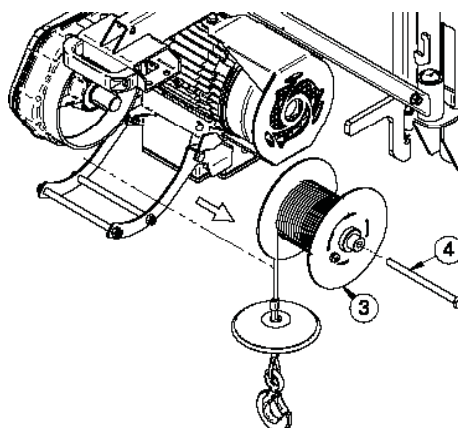

Fig. 4.2
2) Pull out the drum (Ref.3 Fig.4.2); if it is stuck, use a 5739 M16x150 screw (Ref.4 Fig.4.2) as a puller to be screwed onto the threaded pin (screw not supplied).